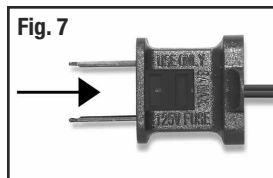

Fig. 7
Style 1: Each tree section has a light string cord that will plug into a receptacle on the section below. The extension cord at the bottom of the tree plugs into a standard electrical outlet or other power source (Figure 7).
4. Close fuse compartment by sliding access cover back in towards cord side of plug (Figure 7).